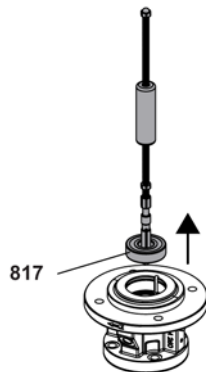

Fig. 22
5. Loosen the circlip 471.3 in the flange cover. Pull the ball bearing 817 out of the flange cover using a pulling-off device, see Fig. 22.